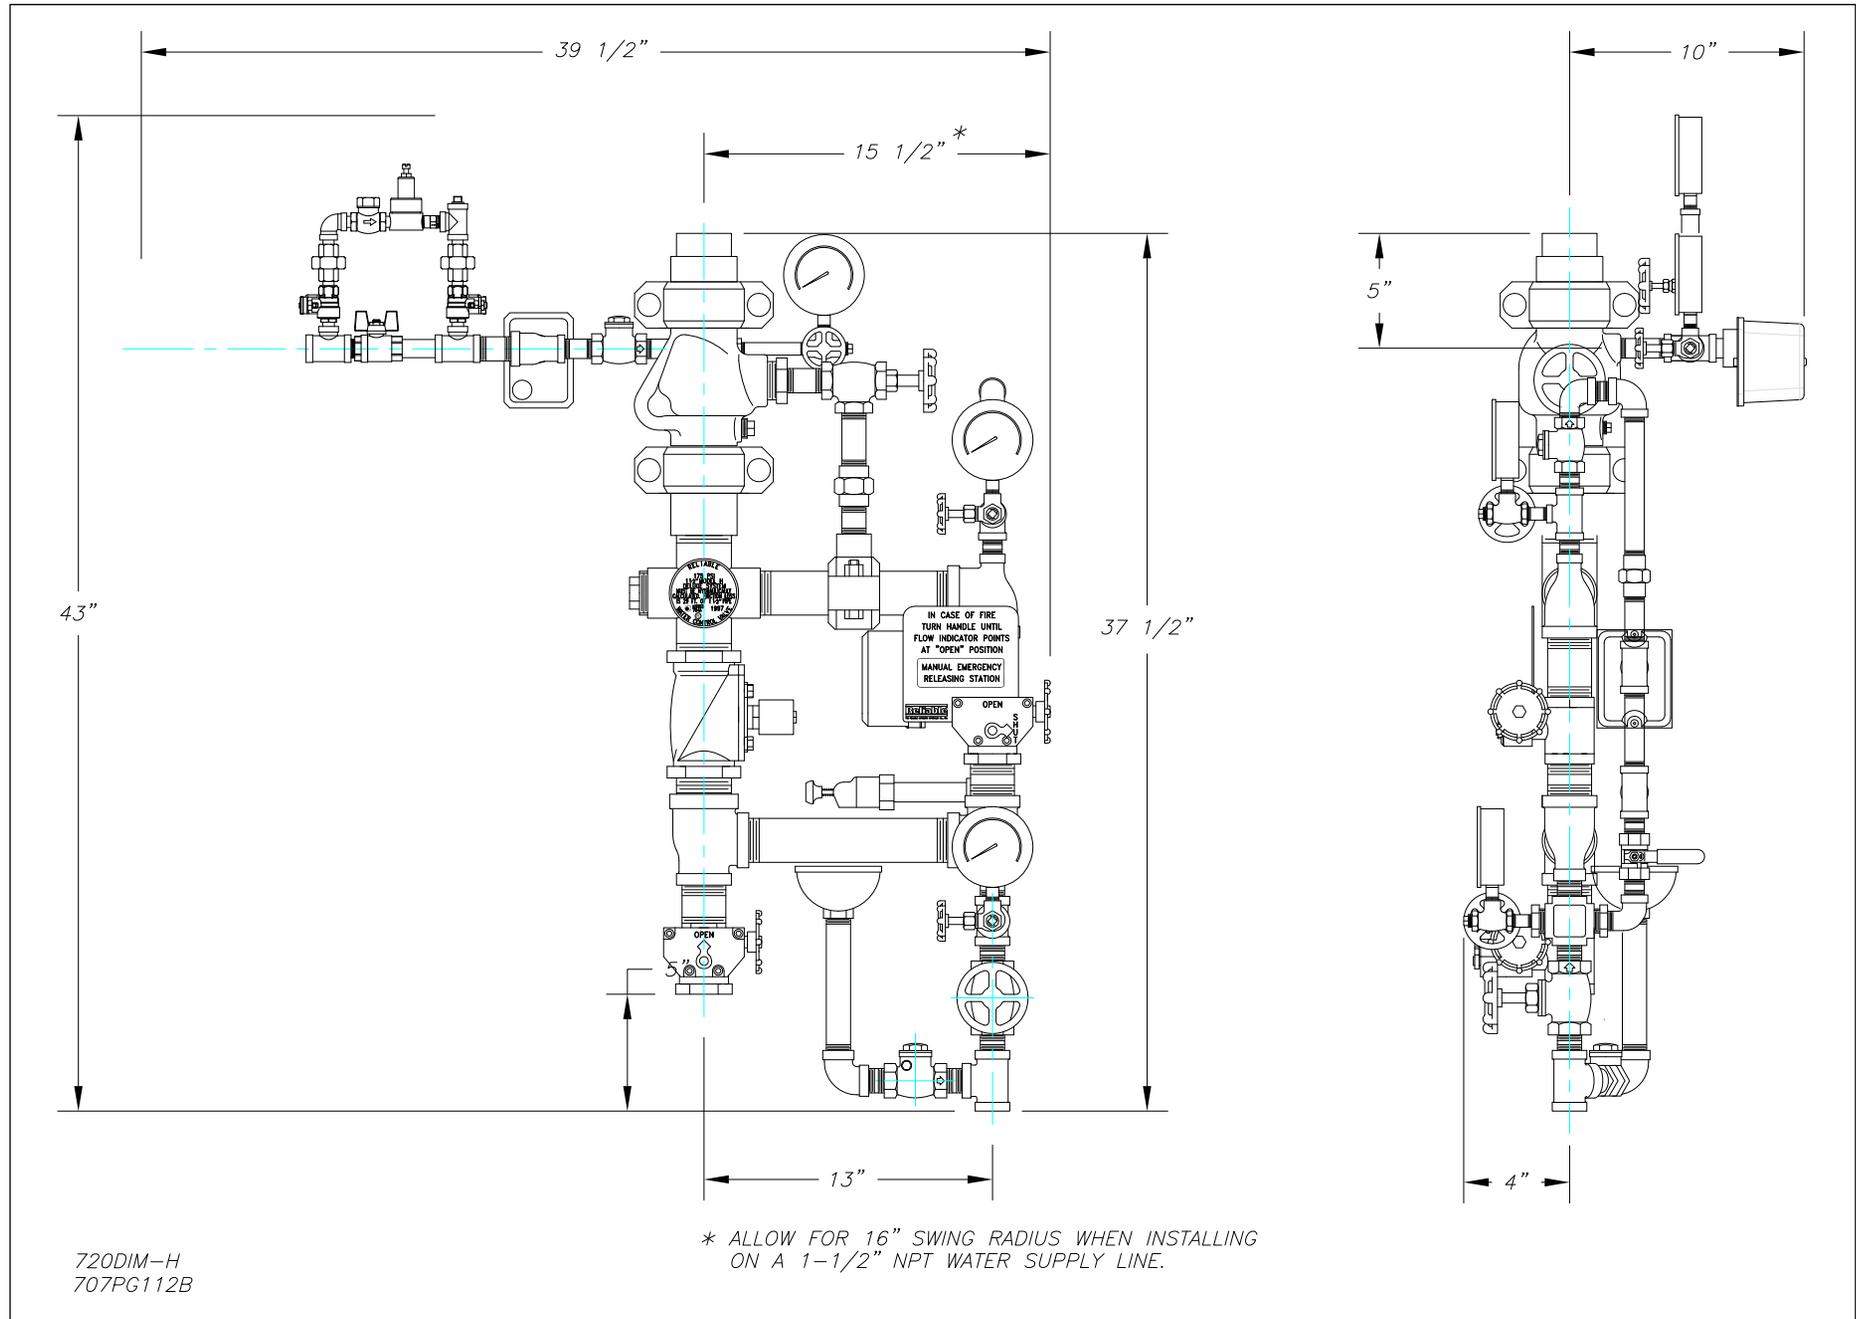

Figure 3
3. The Double Interlock Switch/Gauge Trim Kit (P/N 6501200110), illustrated in Figure 3, consists of items 1 through 6. Assemble the kit using a suitable PTFE - based pipe thread sealant applied to each male thread. Verify that the check valve orientation is according to the directional flow arrow illustrated.